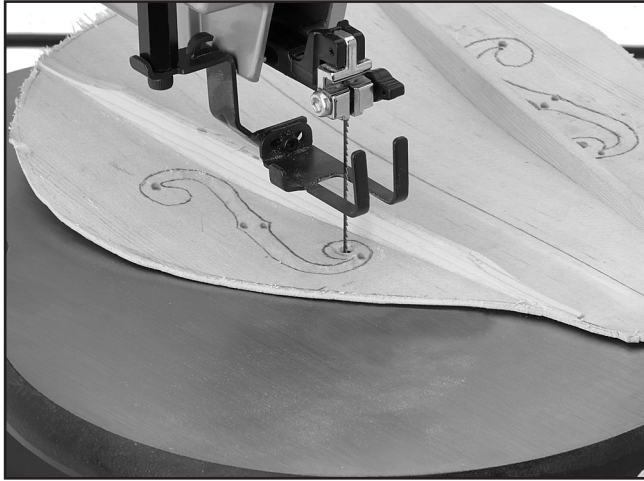

Figure 7. Cutting the f-holes.
7. Drill a hole into the f-hole ends, then cut them out carefully with a scroll saw or jig saw, making sure you stay inside the lines, as shown in **Figure 7**.